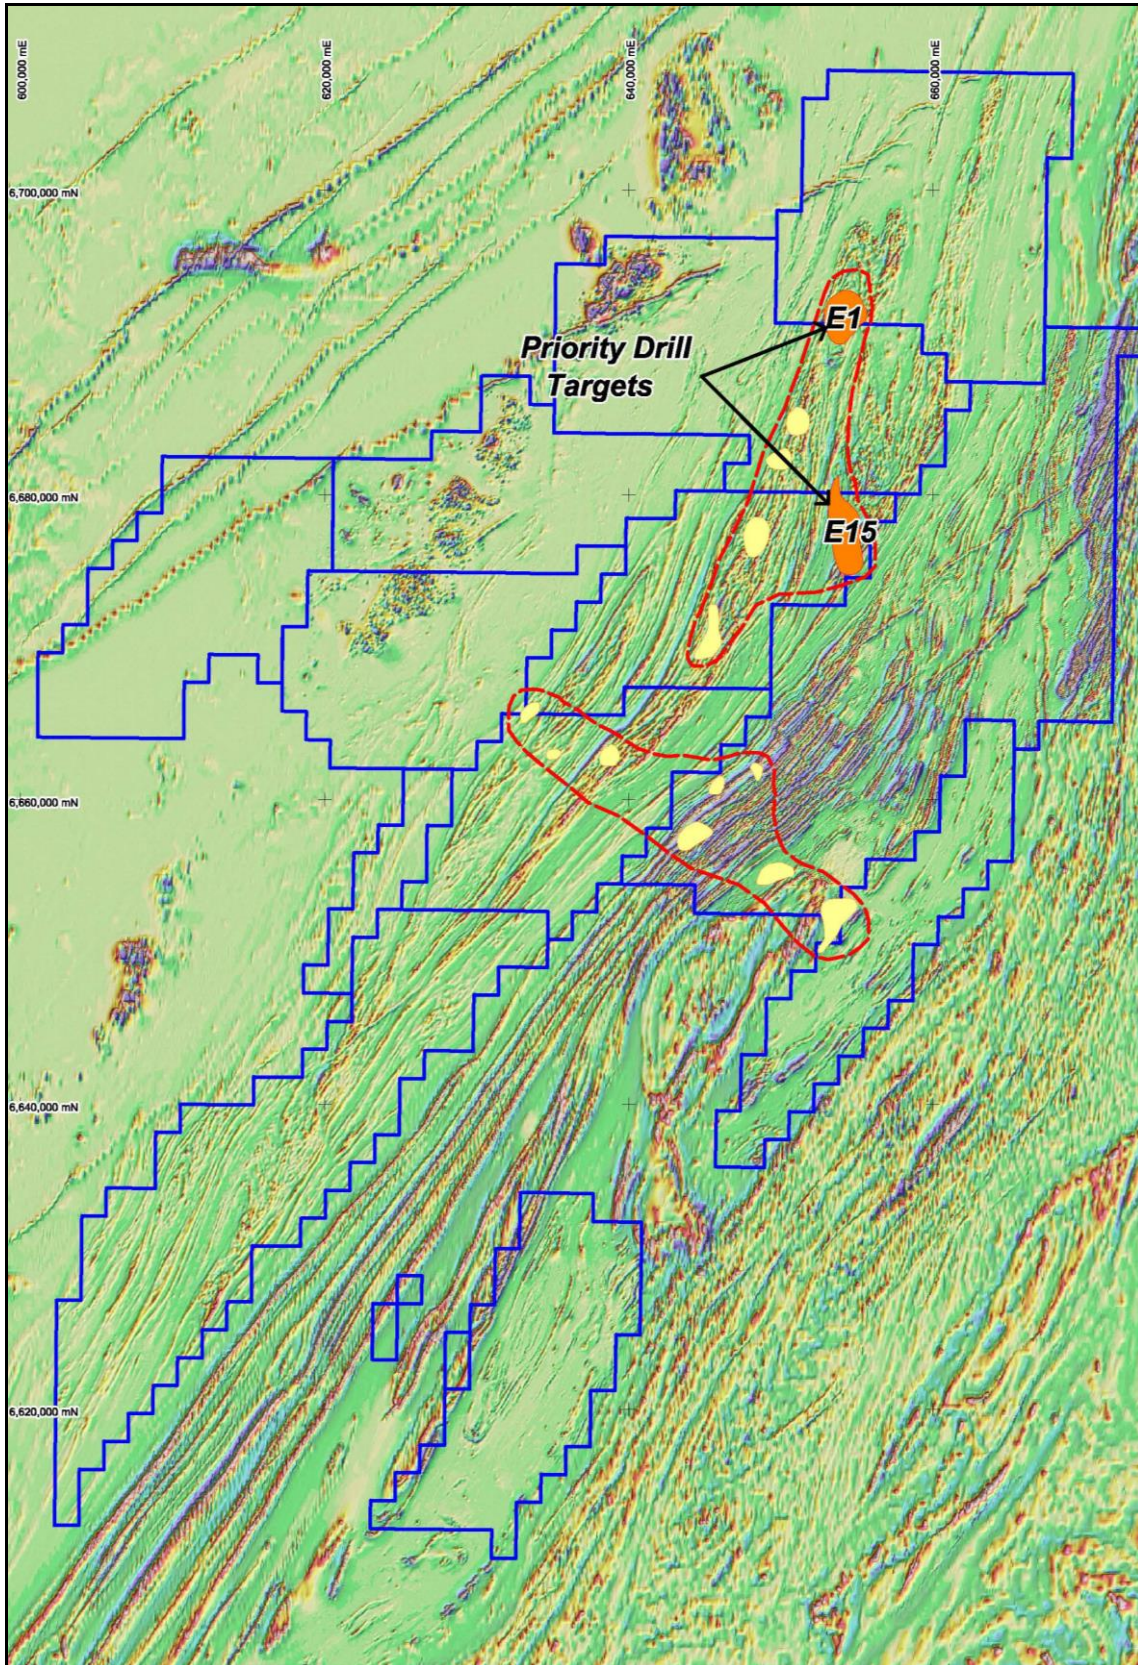

Figure 4: Location map showing high priority exploration targets
Segue identified fifteen (15) exploration targets within two district-scale clusters in the northern and central parts of the Project area (**Figure 4**). All targets lie within the Transform Graben Zone (TGZ) identified from the recently completed gravity survey and are consistent with the Company's geological and mineral emplacement models.